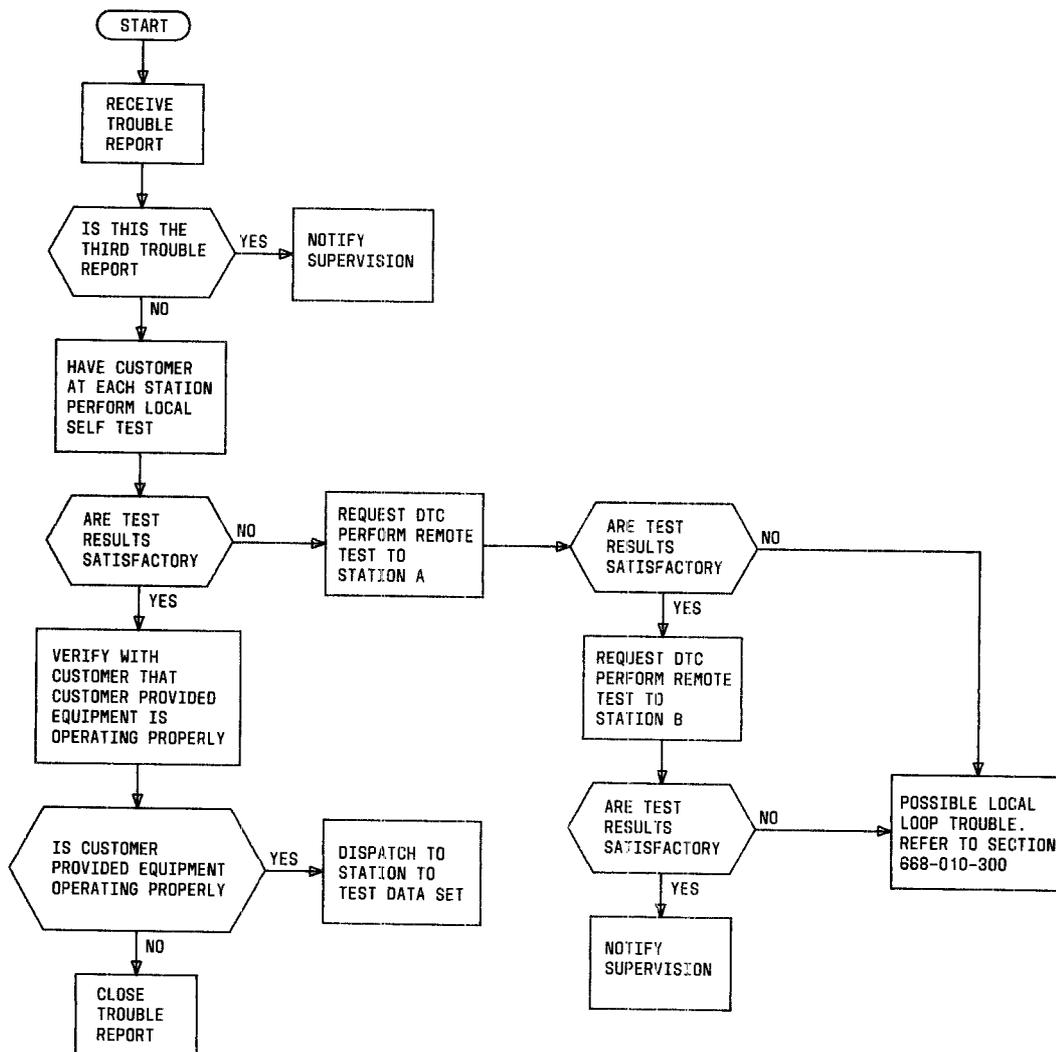

Fig. 3—Clearing Trouble Report
3.02 When a trouble report is received, a data test center (DTC) is responsible for isolating the trouble to the data set or transmission facility. The procedure for doing this is shown in Fig. 3.